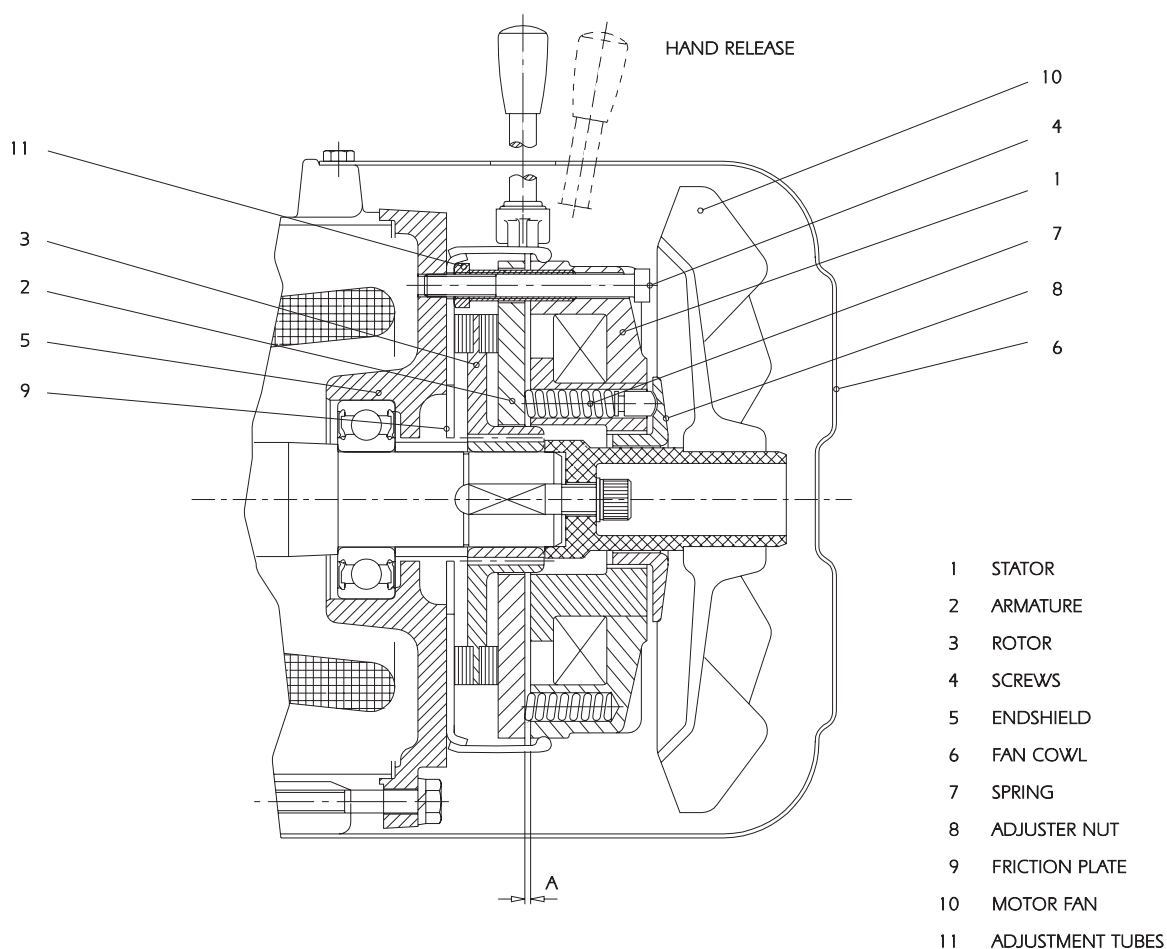

FIGURE 5
CHECKS AND ADJUSTMENTS (Fig 5)
- 2 Check the maximum air gap 'A' (Fig 5), this must not be exceeded. Use a feeler gauge and check in three positions, ensuring the gap is even (see table 1).
The brake is supplied with nominal torque (table 1) set at the factory. This torque can be reduced by unscrewing the torque nut (8) (Fig 5) using a 'C' spanner to approximately 60% of nominal torque. Torque reduction steps identified in table 1.